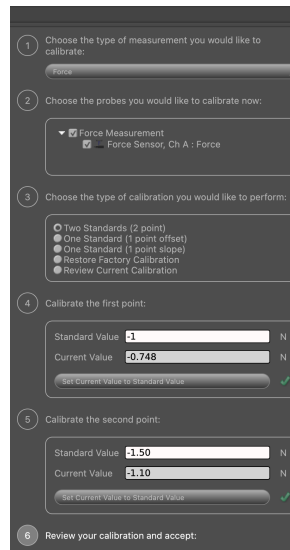

Figure 1: Calibrating the force sensor.
- Repeat this procedure with a different weight and then press finish. The sensor should now be calibrated. See Figure 1 for a screen shot of the Capstone calibration menu.